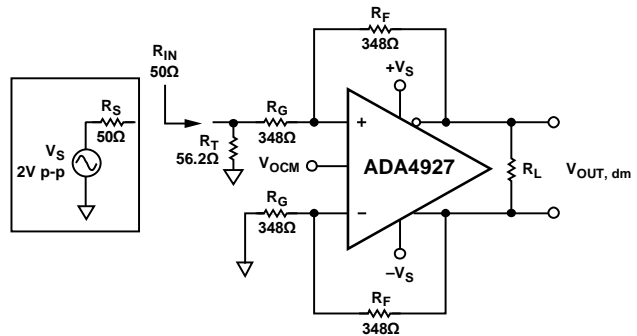

Figure 51. Adding Termination Resistor  $R_T$
3. It can be seen from Figure 51 that the effective  $R_G$  in the upper feedback loop is now greater than the  $R_G$  in the lower loop due to the addition of the termination resistors. To compensate for the imbalance of the gain resistors, a correction resistor ( $R_{TS}$ ) is added in series with  $R_G$  in the lower loop.  $R_{TS}$  is equal to the Thevenin equivalent of the source resistance  $R_S$  and the termination resistance  $R_T$  and is equal to  $R_S || R_T$ .